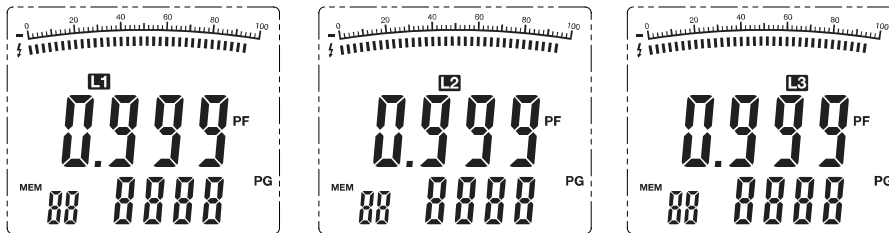

Figure 11
4. Press the L1-L2-L3 button to select the conductor that is clamped. (Fig.11)
5. The dual display indicates the power factor (PF) in the main display and the phase angle (PG) in the secondary display